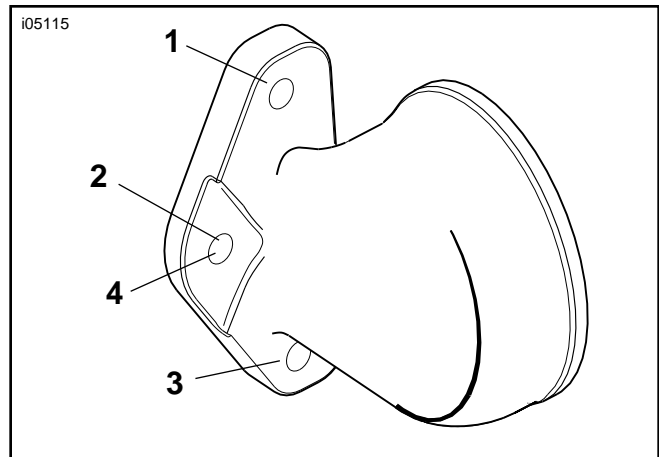

Figure 3. Oil Filter Mount Torque Sequence
18. See Figure 3. Starting at the top, alternately tighten the screws to 130-150 in-lbs (15-17 Nm).